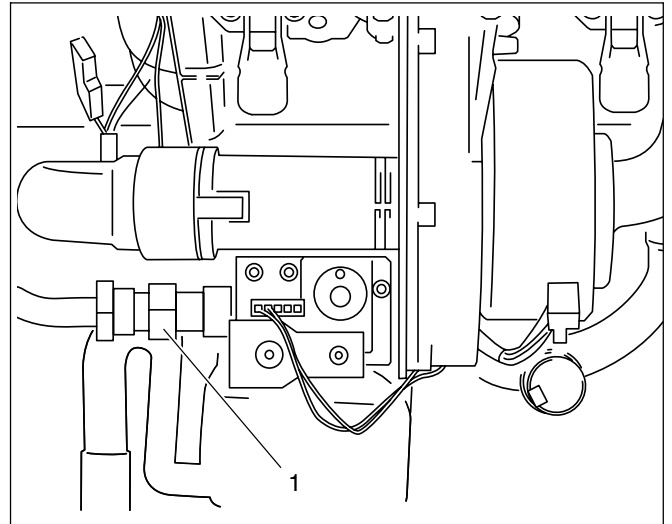

Fig. 118 Loosening the gas control valve
- Loosen the union nut of the gas control valve (see fig. 118, pos. 1).